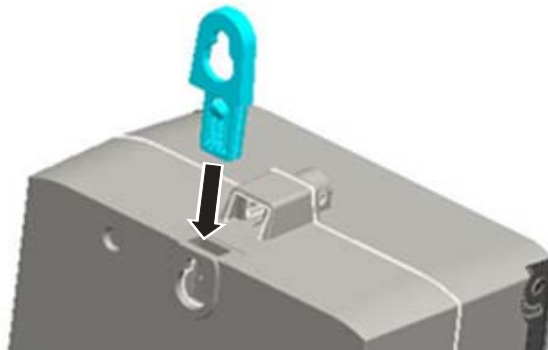

Fig. 4.2 Meter suspension eyelet
7. For open meter mounting insert the meter suspension eyelet – which is supplied in the terminal cover – into the corresponding opening at the rear side of the meter until the suspension eyelet engages (see Fig. 4.2).